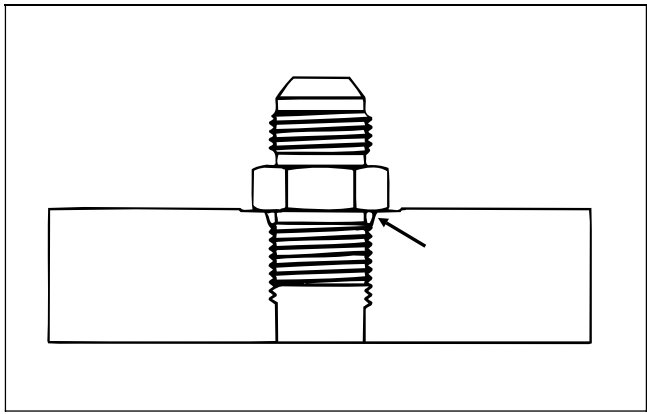

Figure 4
**SAE Straight Thread O-Ring Port - Non-adjustable (Fig. 4)**